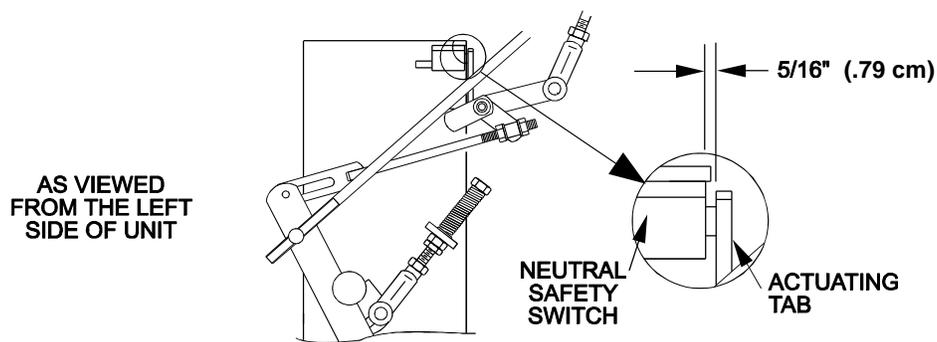

FIGURE 17
3. Pull the speed control lever back to neutral. Check that the neutral safety switch actuating tab has depressed the plunger of the switch so that there is about 5/16" (.79 cm) between the tab and the switch. See Figure 17. If necessary, move the switch fore and aft.